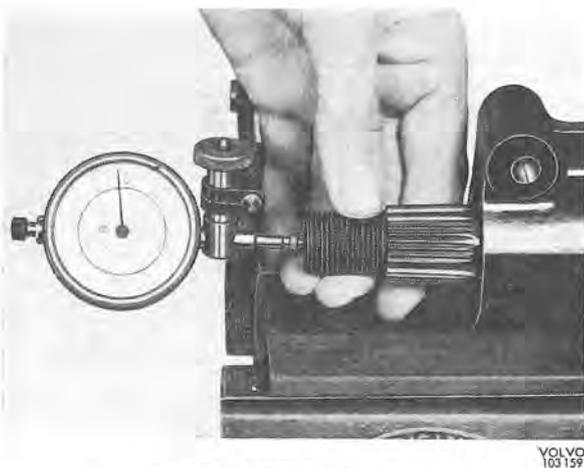

Fig. 6-59. Checking the axial play
9. Measure the axial play (Fig. 6-59) after the bolts have been tightened. Then reduce the total thickness of the shims so that there is a calculated pre-tensioning of 0.025—0.075 mm (0.0010—0.0030"). If, for example, the first measured play is 0.05 mm (0.0020") and the thinnest shim 0.127 mm (0.0050"), replace this shim with one of thickness 0.05 mm (0.0020"). The play will then reduce 0.077 mm (0.0031") and become a pre-tensioning of (0.077—0.05 = 0.027 mm (0.0031—0.0020 = 0.0011").